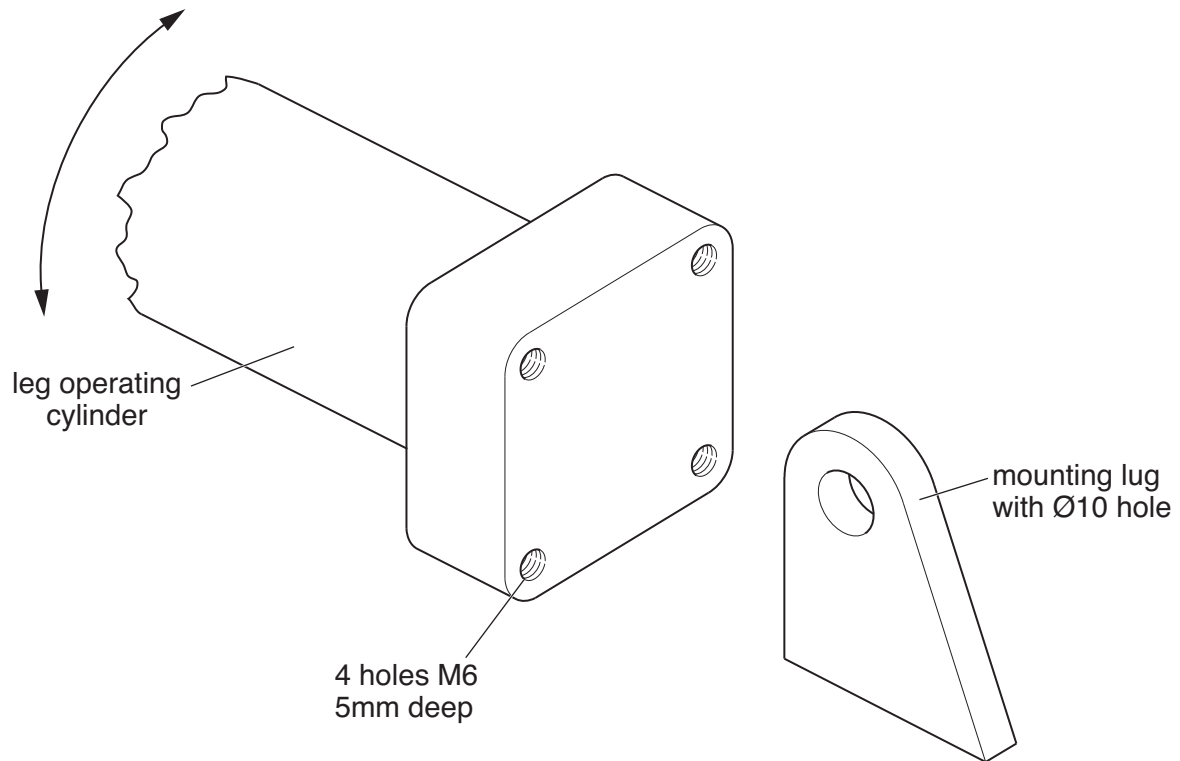

Fig. 4
Fig. 4 shows the rear of the cylinder that operates the leg. This cylinder must be attached to the mounting lug on the chassis and allowed to move as required.
- (b)** Draw on Fig. 4 a bracket that will secure the cylinder to the mounting lug of the chassis and allow the correct movement of the cylinder. **[5]**